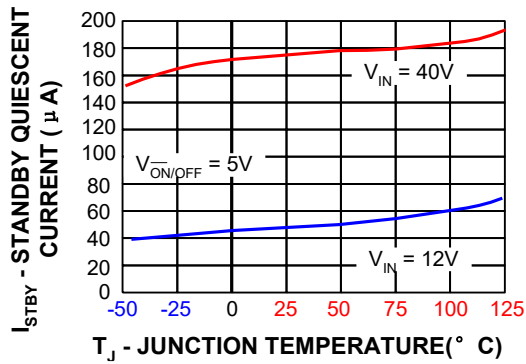

Fig.7 Standby Quiescent Current (T_J)
- External components such as the catch diode, inductor, input and output capacitors can affect switching regulator system performance. When the GS5276 is used as shown in the Figure 7 test circuit, system performance will be shown in system parameters section.
An additional small LC filter (20 μ H & 100 μ F) can be added to the output (as shown in Figure 7) to further reduce the amount of output ripple and transients. A 10 x reduction in output ripple voltage and transients is possible with this filter.